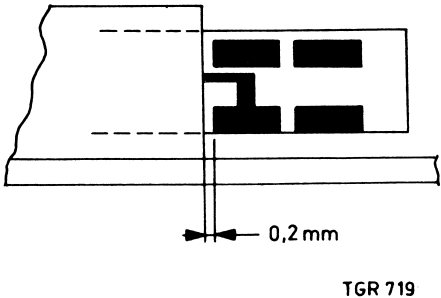

Fig. 28
Switch to track 2-3; the switch should be as shown in Fig. 28. Adjust by bending the bracket, item 129.